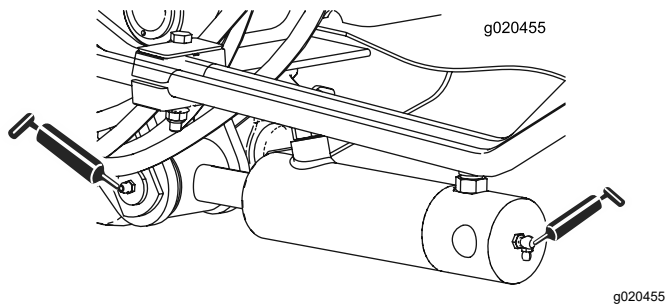

Figure 84
- 2 (each side) lift-arm-cylinder bushings (Figure 84)